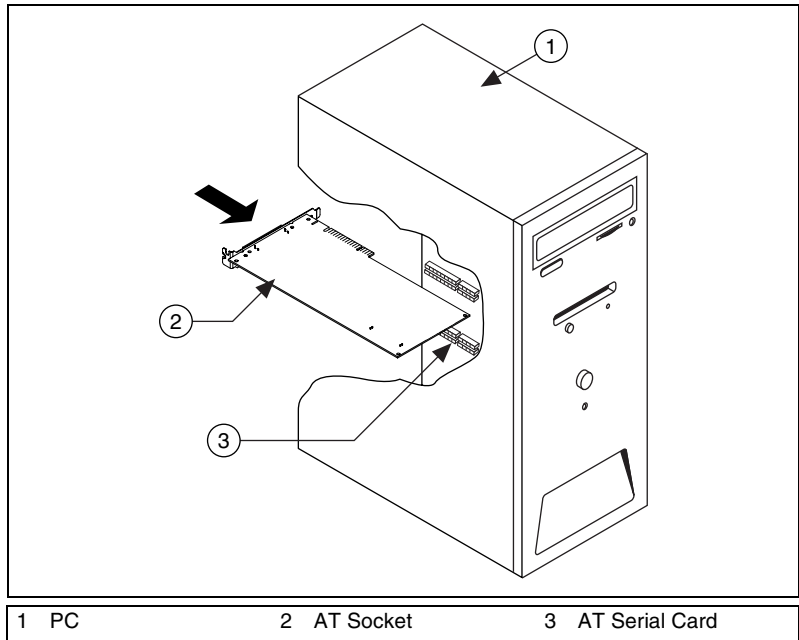

Figure 6-5. AT Serial Board Installation
6. Insert the AT serial board into the slot with the serial connectors toward the opening on the back panel. Make sure that you insert the board all the way into the slot. The board might seem to click firmly into place, even though it is only part of the way in. Figure 6-5 shows how to install the AT serial board into an expansion slot.